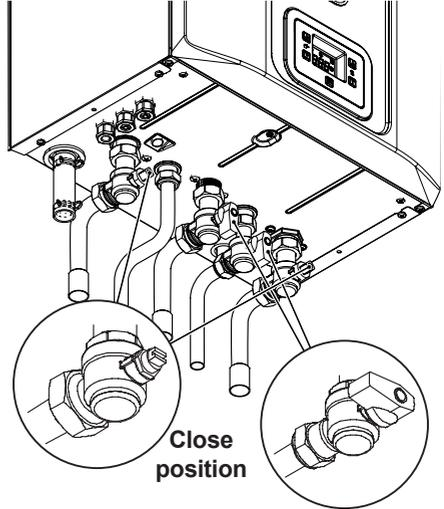

Fig. 2.16
- Shut off the gas supply cock and the valves for the water circuits fitted under the boiler Fig. 2.16;